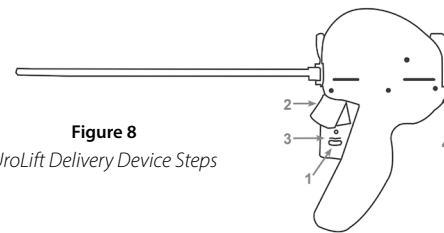

Figure 8
- 6.1 Unlock the Needle Safety Lock (Step 1, Figure 8).
- 6.2 Lightly depress *only* the Needle Trigger to deploy the needle (Step 2, Figure 8). The UroLift System needle extends 33 mm, which is sufficient to reliably access the prostatic capsule based on cadaver and clinical studies.
- 6.3 After the needle is fully deployed, depress the Retraction Lever (Step 3, Figure 8) fully to retract needle and deploy Capsular Tab. Squeeze the Retraction Lever again to ensure complete retraction. By this action, the Capsular Tab is delivered from the tip of the extended needle and is then tensioned back towards the prostatic capsule until it seats on the capsular surface. The needle is now in the retracted (not exposed) position and is contained within the Delivery Device. If complete retraction is not achieved, follow Step 8.1 to manually release the Retraction Lever.
⚠ CAUTION: Avoid contact with the Urethral Release (Step 4, Figure 8) button when depressing the Retraction Lever. Contact with the Urethral Release button while depressing the Retraction Lever may result in inadvertent deployment of the Urethral End-Piece and unintentionally cutting the suture.
- 6.5 Press the Urethral Release button toward the telescope (Step 4, Figure 8) to deploy Urethral End-Piece and cut the excess suture. After the Urethral Release button is pressed, the complete implant has been deployed. If the suture is not fully cut after pressing the Urethral Release button, follow Step 8.2 to manually cut the suture. No further implants can be delivered using the same Delivery Device.